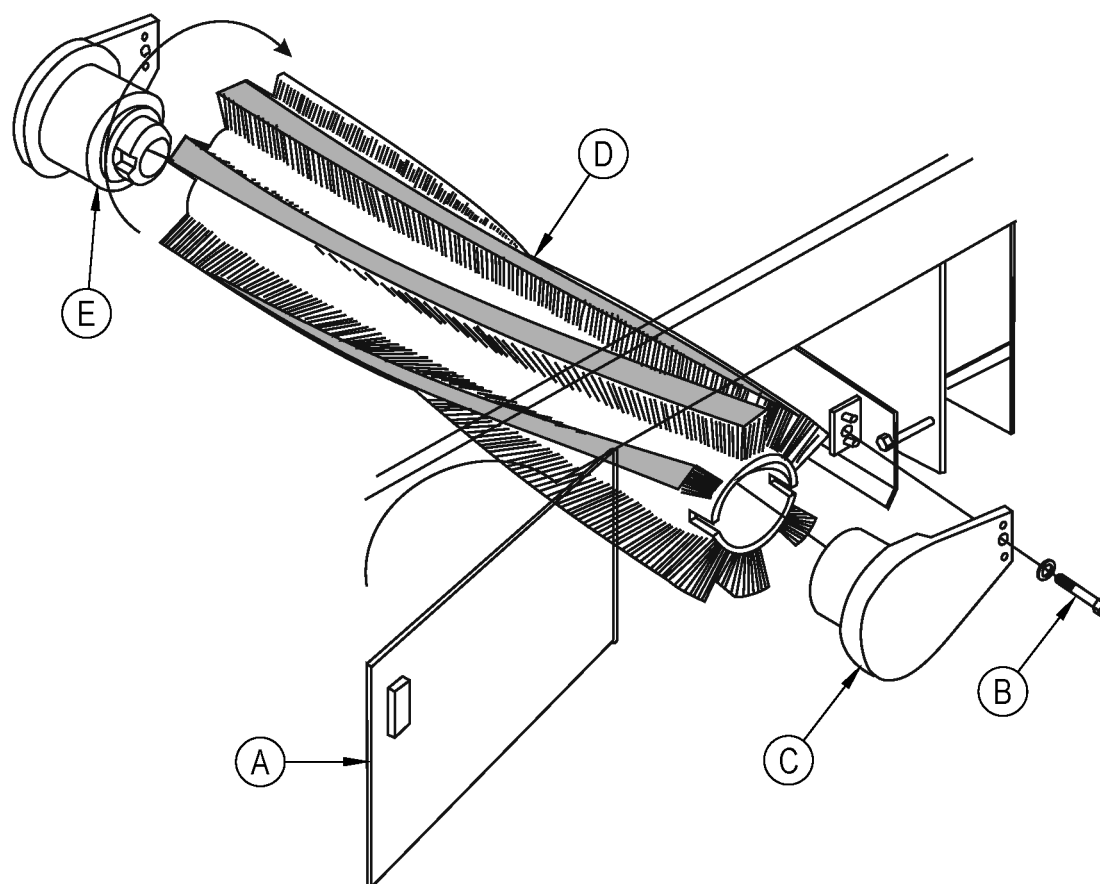

FIGURE 14
HOW TO REPLACE THE MAIN BROOM (See Figure 14)
1. Open the left broom chamber door (A).
3. Remove the retaining bolt (B). (See Figure 14)
4. Remove the idler arm assembly (C).
5. Remove the main broom (D) and discard.
7. Rotate the new broom to the right on the drive hub (E) until it engages the drive hub broom tabs.
8. Put the idler arm assembly (C) in place.
9. Put the retaining bolt (B) in place and tighten.
10. Close the broom chamber door (A).